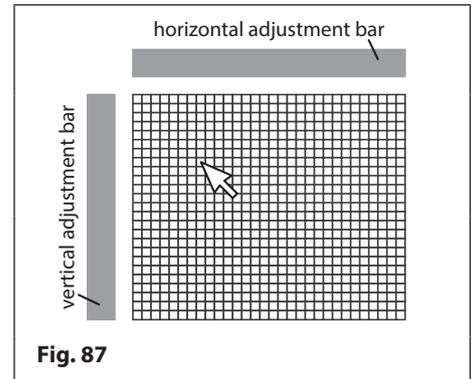

Fig. 87
- Next move the cursor onto the main editing area and position the pointer to where the text will be located, as shown in **Fig.87**.